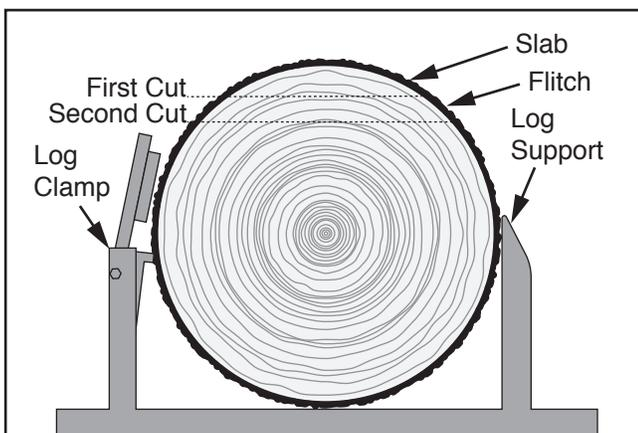

Figure 84. First cuts to live saw a log.
3. Make first cut, then remove slab from log (see **Figure 84**).
4. Lower blade the desired thickness of lumber and cut first flitch (see **Figure 84**).